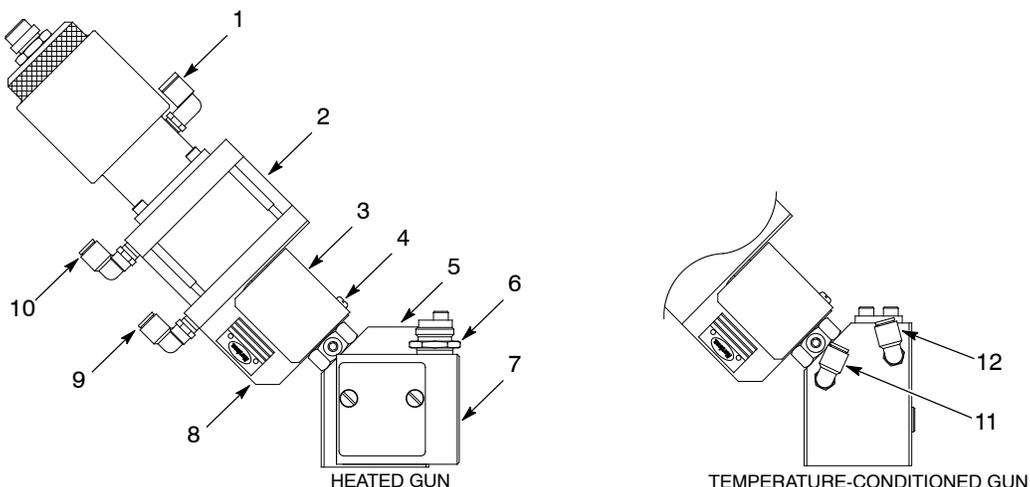
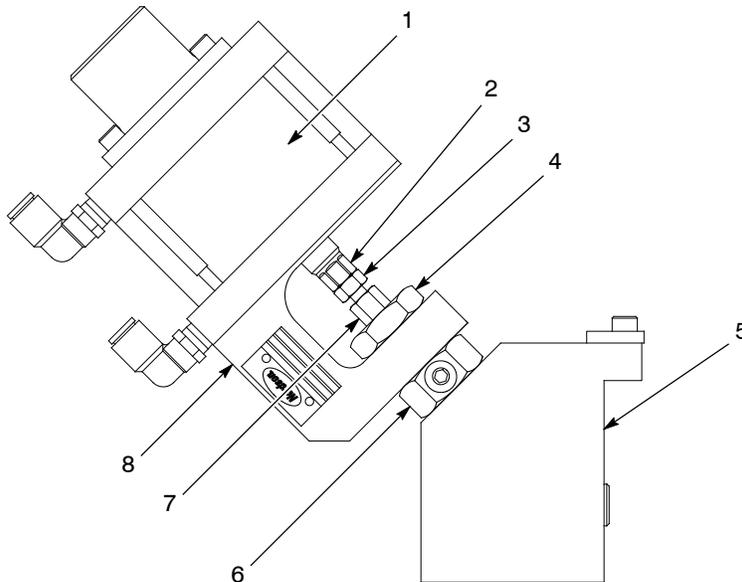
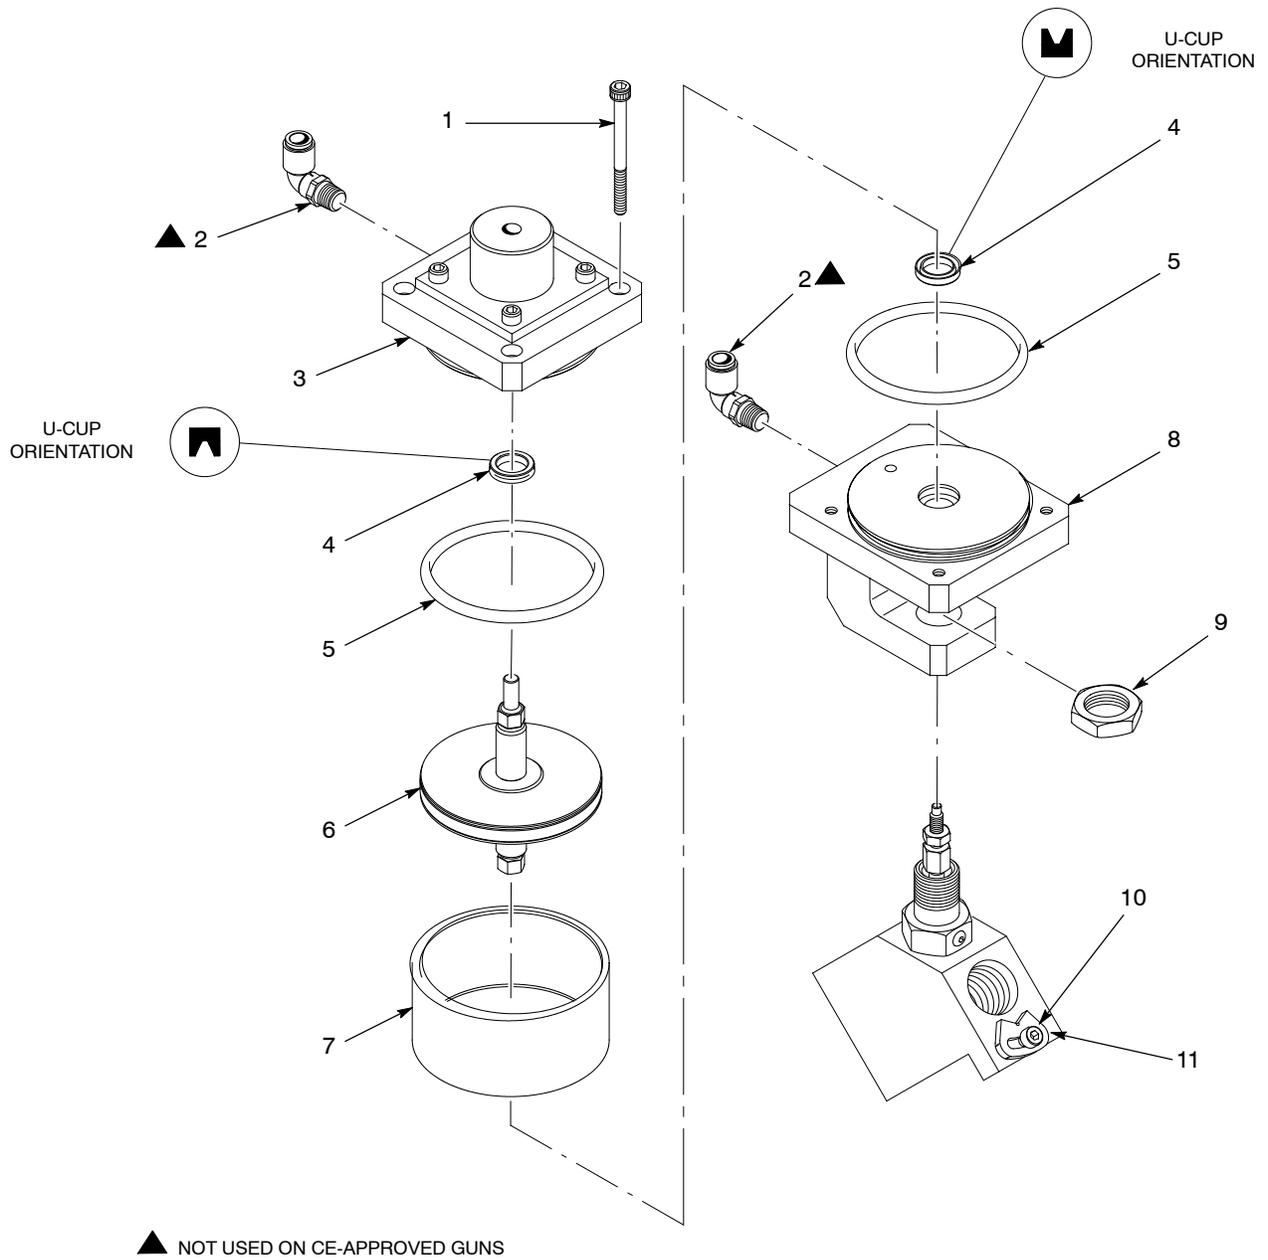

Figure 8 Removing the CE20 Gun from the Mounting Fixture (Typical)
Figure 9 Bonnet Replacement (Typical)
Figure 10 Replacing the Air Cylinder Piston
2. See Figure 8. Disconnect the material supply hose from the material inlet port (5).
3. Disconnect the air lines from the gun-open air port fitting (9) and gun-closed air port fitting (10) on the air cylinder (2).
4. If used, disconnect the air line from the spring closure fitting (1).
5. For guns with a heater module (7), disconnect the heater cable from the heater connection (6).
6. For temperature conditioning applications, disconnect the coolant hoses from the temperature conditioning inlet (11) and outlet (12) ports.
2. See Figure 8. Remove the screw (4) from the yoke (8). Remove the guard (3).
3. See Figure 9. Hold the air shaft hex (2) with a 10-mm wrench and loosen the jam nut (3) with a second 10-mm wrench.
4. Using a 1-in. open-end wrench, unscrew the retaining nut (4) that holds the yoke (8) onto the bonnet and body and seat (5) assembly.
5. Hold the air shaft hex with a 10-mm wrench and apply a second 10-mm wrench to the coupler nut (7). Unscrew the coupler nut until the air cylinder assembly frees itself from the body and seat.
7. Holding the bonnet hex (6) with a 1-in. open-end wrench, unscrew the bonnet from the body and seat.
1. See Figure 9. Coat the new bonnet O-ring and threads with PTFE grease and thread it into the body and seat (5).
3. Lower the air cylinder (1) with the retaining nut (4) held in place toward the body and seat, inserting the yoke (8) over the bonnet hex (6) and stem.
4. Holding the coupler nut (7) in place, finger-tighten the retaining nut onto the bonnet.
5. Using the coupler nut, screw the bonnet stem up into the air cylinder shaft at the air shaft hex (2) until the bonnet stem bottoms out. Do not overtighten using the coupler nut.
6. Using a 10-mm wrench to hold the air shaft hex, tighten the jam nut (3) into the air shaft hex using a second 10-mm wrench. Tighten the jam nut to 9 N•m (80 in.-lb).
9. See Figure 8. Once you have completed any service or repair activities, replace the guard (3). Coat the screw (4) with Loctite 242 and fasten the guard to the yoke (8).
4. See Figure 10. Using a 4-mm hex key, remove the four socket head screws (1) from the upper cylinder head (3).
5. Separate the upper cylinder head from the yoke/lower cylinder head (8).
6. Remove the cylinder sleeve (7) and the piston/shaft assembly (6).
8. Remove the lipseals (4) from the grooves inside the upper and lower cylinder heads.
9. Remove the cylinder head O-rings (5).
1. See Figure 10. Lubricate new lipseals (4) with Magnalube-G and install them as shown.
2. Lubricate and install two new cylinder head O-rings (5).
3. Lubricate the inside diameter of the cylinder sleeve (7) and the outer blue seal of the piston/shaft assembly (6).
5. Install the female-threaded end of the piston shaft into the yoke/lower cylinder head (8). Snap the cylinder sleeve onto the yoke.
6. Snap the upper cylinder head (3), O-ring side down, onto the cylinder sleeve.
7. Line up the upper cylinder head and lower cylinder heads squarely, so that the air fittings (2) are lined up.
8. Lubricate the threads of the four socket head screws (1) and install them to secure the upper cylinder head onto the lower cylinder head. Tighten the screws 5.2 N•m (46 in.-lb).
10. See Figure 8. Once you have completed any service or repair activities, replace the guard (3). Coat the screw (4) with Loctite 242 and install the guard to the yoke (8). Tighten the screw securely.
2. See Figure 8. Connect the material supply hose to the material inlet port (5).